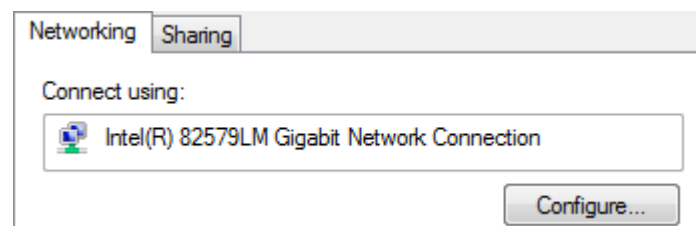

Figure 99: Access to network interface card driver settings
3. Press the *Configure* button below the name of the physical network interface, shown in Figure 99.